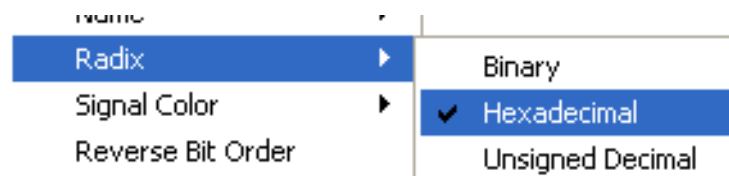

Figure 4-26: Changing the Radix of a Signal
2. Select **Radix**, then the radix type you wish to interpret the signal in. (Refer to Figure 4-26.)